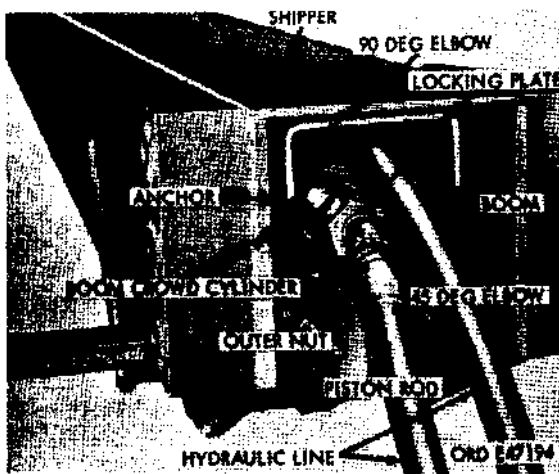

Figure 406. Rear view of boom and shipper assembly with cable drum removed
h. Boom Crowd Cylinder. The boom crowd cylinder (fig. 406) is mounted horizontally inside the boom and shipper assembly. The rear end of the crowd-cylinder piston rod is secured to the anchor (welded to the rear end of the shipper) by two nuts and a locking plate. A collar welded to the crowd cylinder at a point midway between the ends is secured to the boom by two pins inserted through the sides of the boom and the collar.